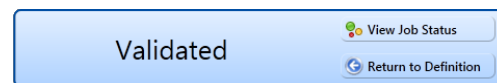

Figure 9-10. Validated Message
- 13 To validate the definition, click the **Prevalidate** button. When the validation process completes and the following message displays (Figure 9-10), click **View Job Status** to open the *Job Status* window or **Return to Definition** to open the *Definitions* window.